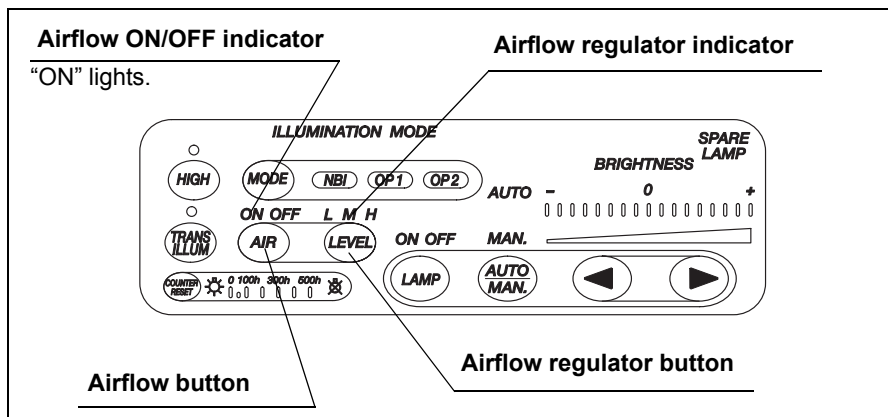

Figure 4.8
1. Confirm that the airflow “ON” indicator lights. If not, press the airflow button (see Figure 4.8).